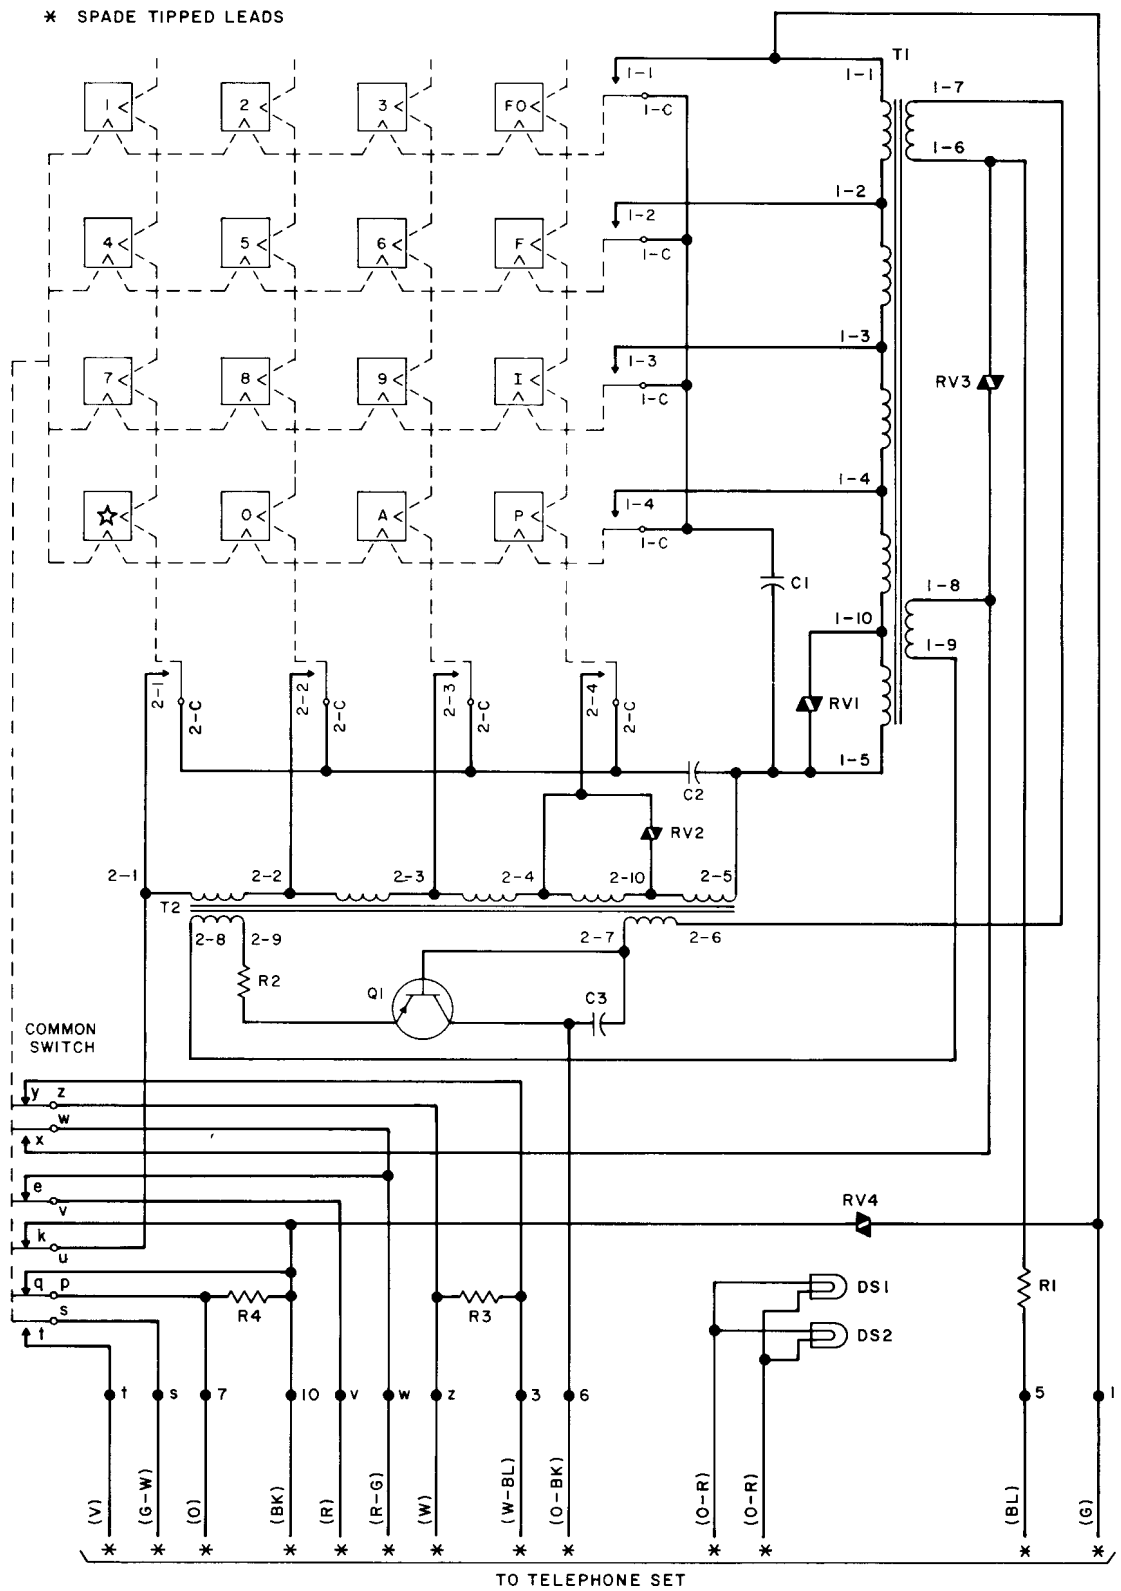

Fig. 9 — 66A4B Dial — Wiring Schematic
- Fig. 9 — 66A4B Dial — Wiring Schematic